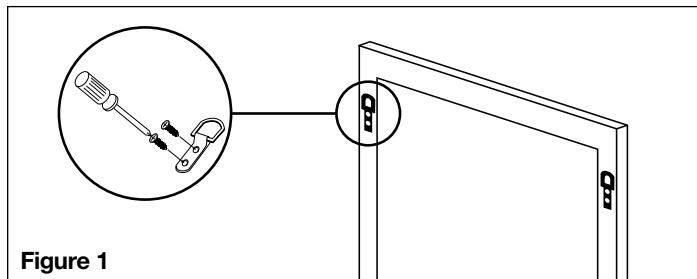

Figure 1
- Attach the hanging brackets to the back of the mirror using the included screws (Figure 1).